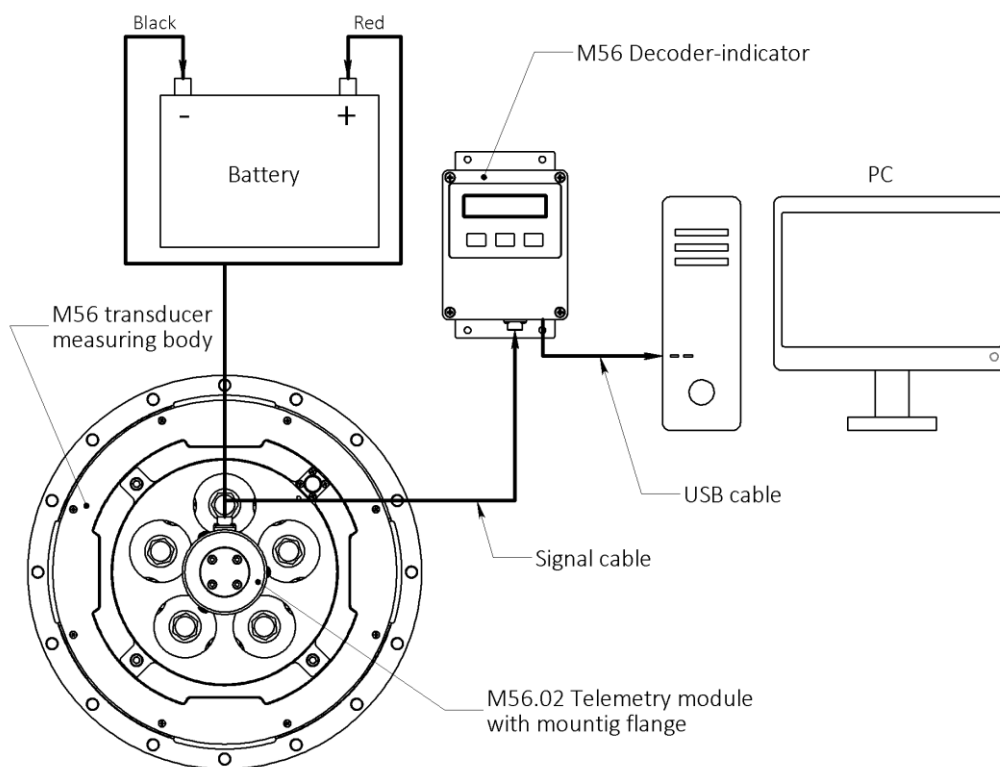

Fig.7. The scheme of electrical connections of the M56-25K-15K-5K WFT.
7. Make the electrical connections according to the scheme given in fig. 7. Use the supplied cables.